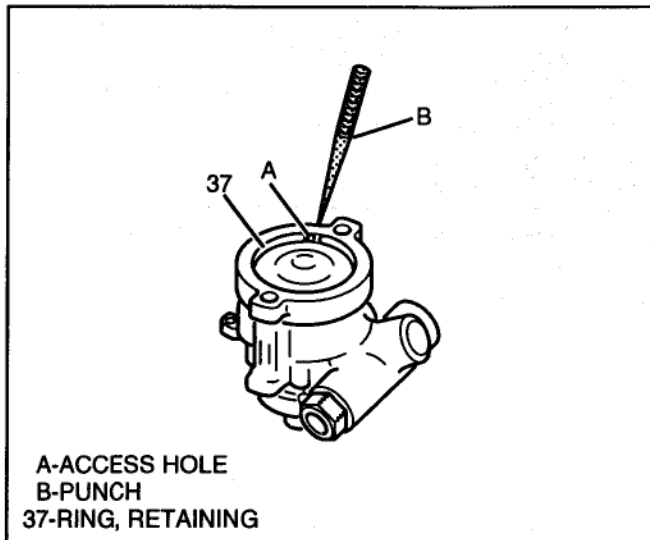

Figure 5 Retaining Ring Removal
1. Retaining ring (37) using punch in access hole (see Figure 5).
2. Internal components of pump from pump housing (10) by gently pushing on drive shaft (7). Components should include pressure plate sub-assembly consisting of:
- End cover (36).
- O-ring seal (35).
- Pressure plate spring (33).
- Pressure plate (31).